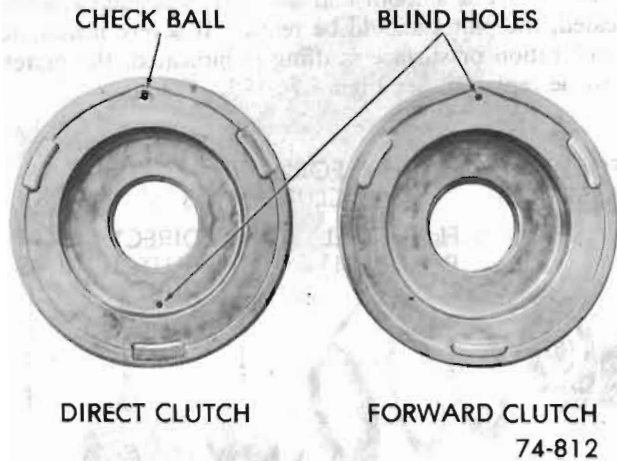

Figure 76-186
**NOTE:** The forward and direct clutch pistons have identical inside and outside diameters. It is possible to reverse the pistons during reassembly, therefore care should be exercised to make certain the proper piston be installed in the clutch assemblies as shown in Figure 76-186. The forward clutch piston can be identified by the blind hole in the clutch apply face of the piston.